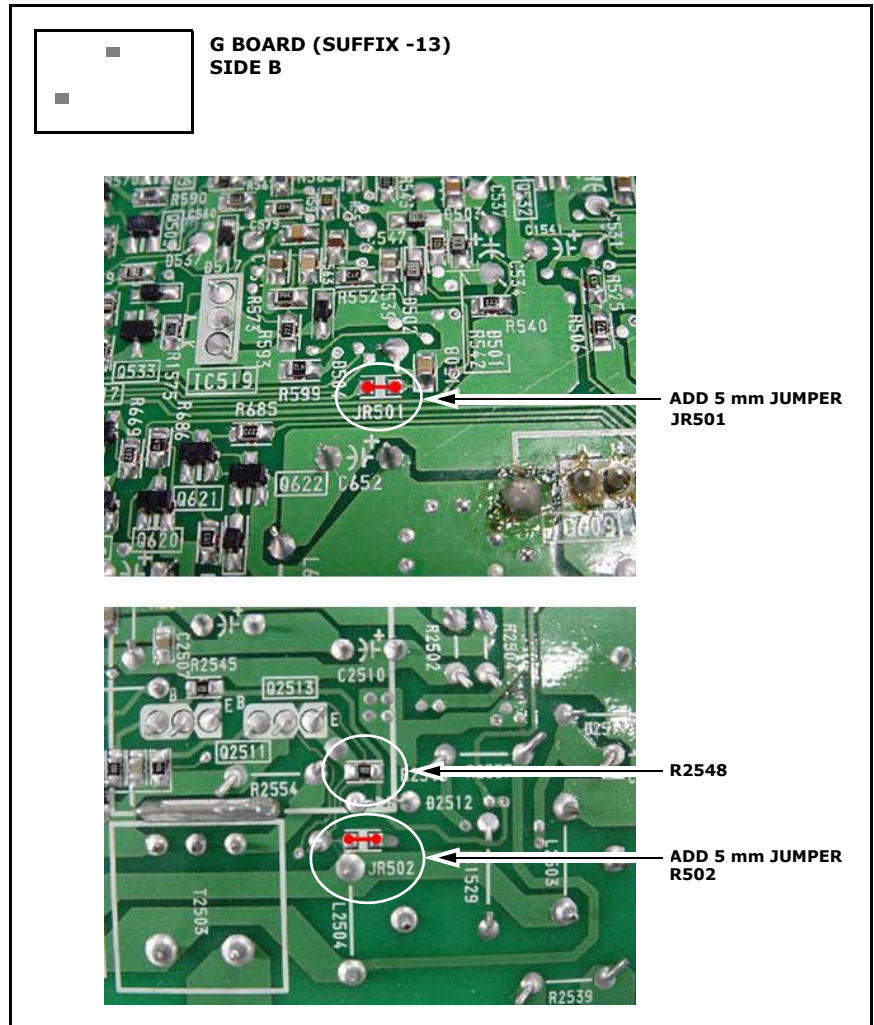

Figure 2
6. Solder a 5 mm jumper to JR501 (near C652) and a 5 mm jumper to JR502 (near L2504) as shown in Figure 2.